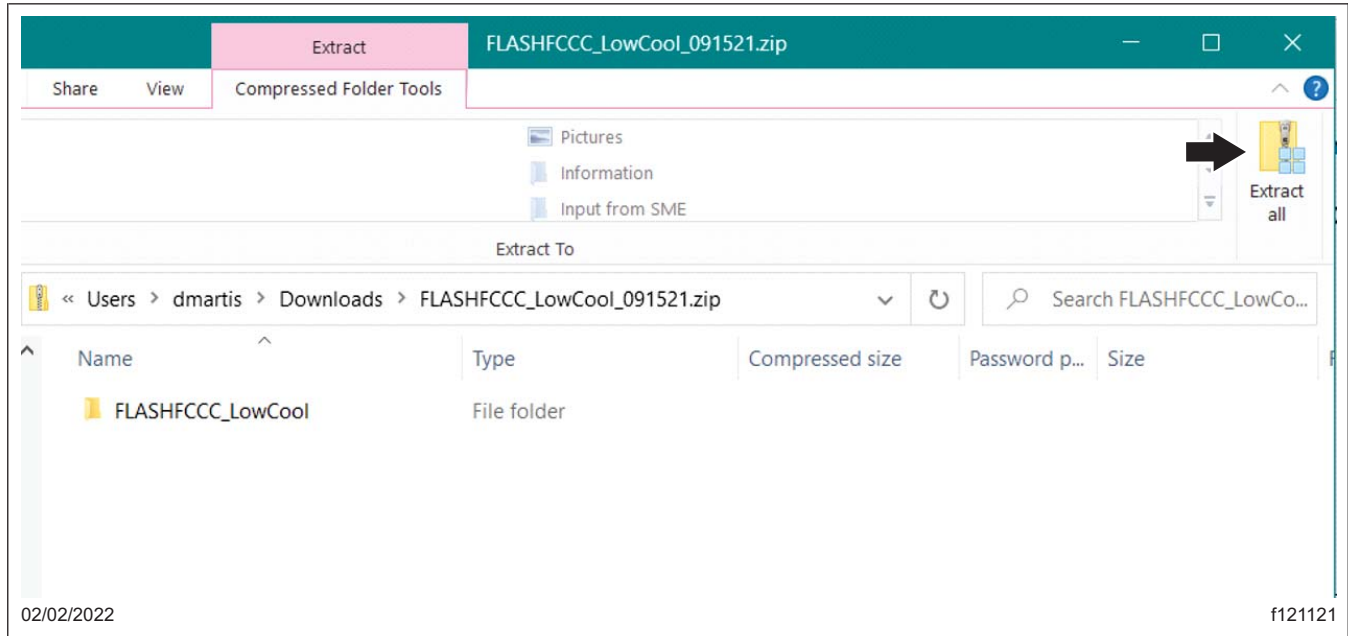

Fig. 5, Extract All Button
6. Select the 'Extract All' button. See Fig. 5.